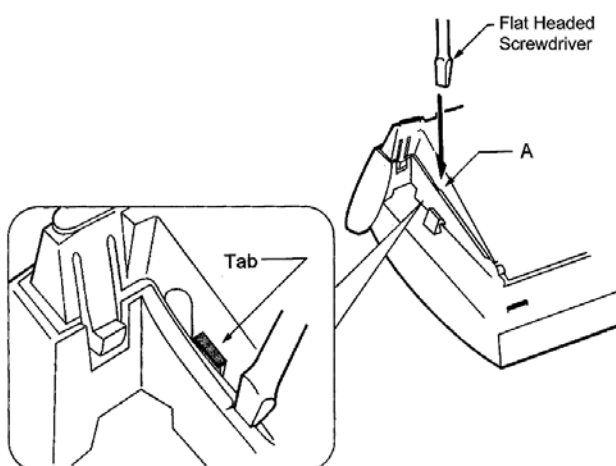

Figure 6-32: Unlocking Tab
3. Insert flat head screwdriver into A in *Figure 6-32: Unlocking Tab* and press straight down until tab unlocks.